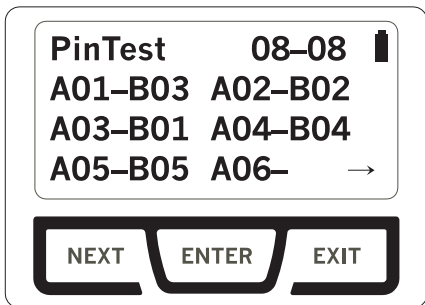

figure 8
e. Cross/Mis-wires (refer figure 8)